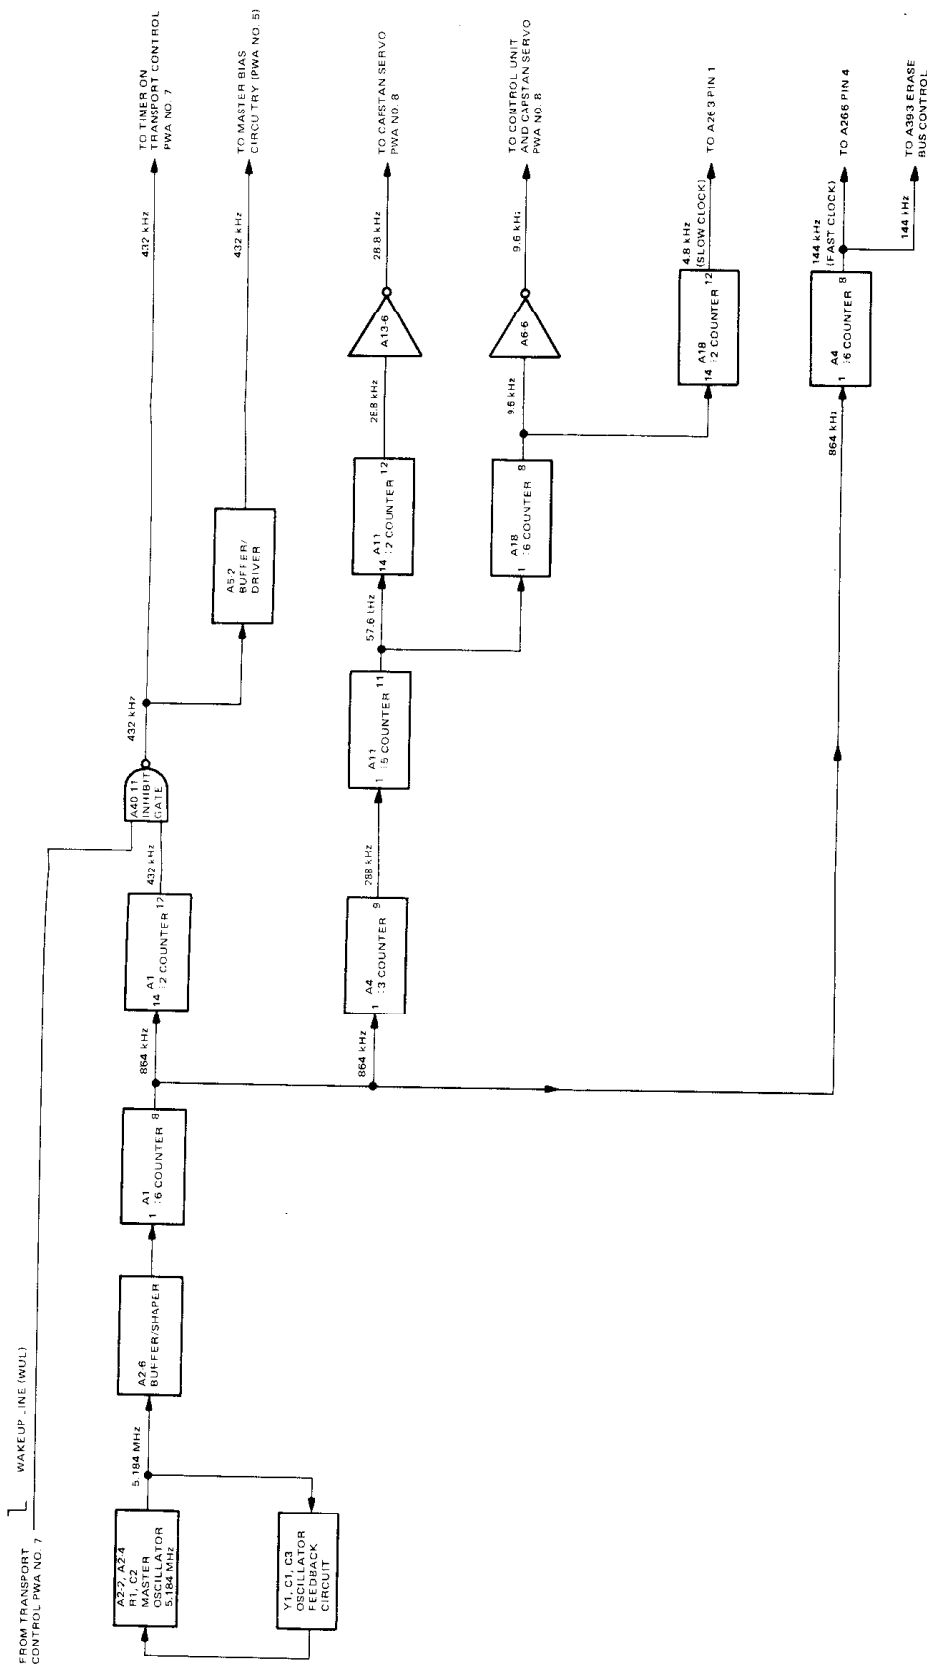

Figure 4-14. Master Oscillator and Counters, Simplified Block Diagram (PWA No. 5)
**4-62. Master Oscillator and Counters.** The master oscillator generates a frequency of 5.184 MHz which is divided down and used for the following functions: reference frequencies for the capstan servo, switching carrier for the reel servo, audio bias and erase frequencies, and clock frequencies for the multiplexer system circuitry and the tape timer. Figure 4-14 is a simplified block diagram of the master oscillator and counters.
The 5.184-MHz signal is divided down by counters A1-8, A1-12, A4-8, A4-9, A5-2, A11-11, A11-12, A18-8, and A18-12 to provide the various signals shown on simplified block diagram Figure 4-14.